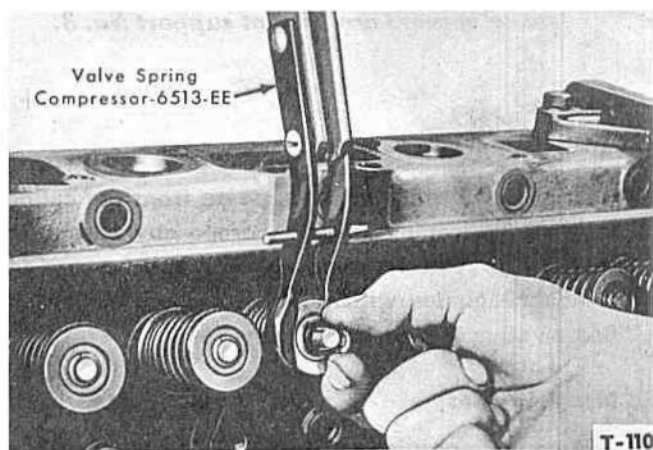

Figure 12—Removing Valve Spring Retainer Locks
2. Prior to removing the valves, clean all carbon deposits from the combustion chambers. Position Valve Spring Compressor 6513-EE over the valve and spring as shown in Figure 12 and compress the valve spring. Remove the two valve spring retainer locks, sleeve, retainer, spring and